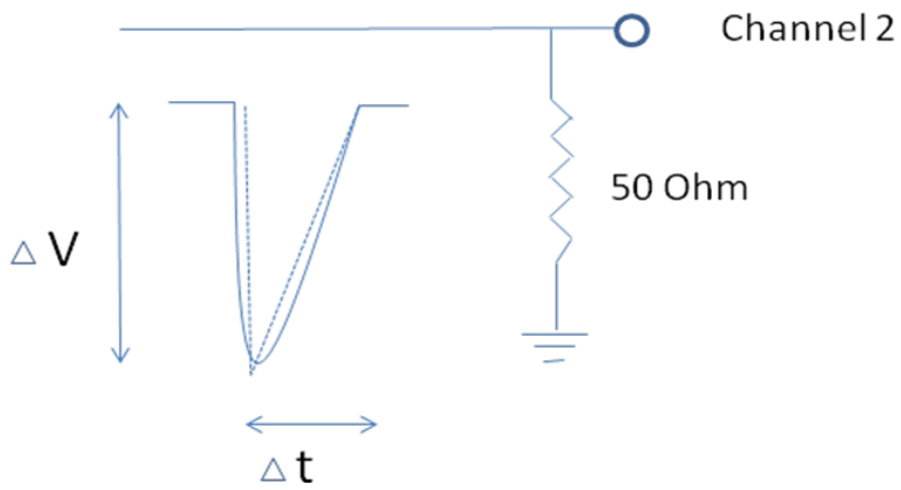

Figure 5. Input to the oscilloscope from a scintillation counter.
20. Using channel 1 as a trigger, observe the analogue signal on channel 2. Channel 2 will then show the scintillator signals for the cosmic muons. Assuming that the signal is triangular, what is the charge of the signal? See Figure 5.